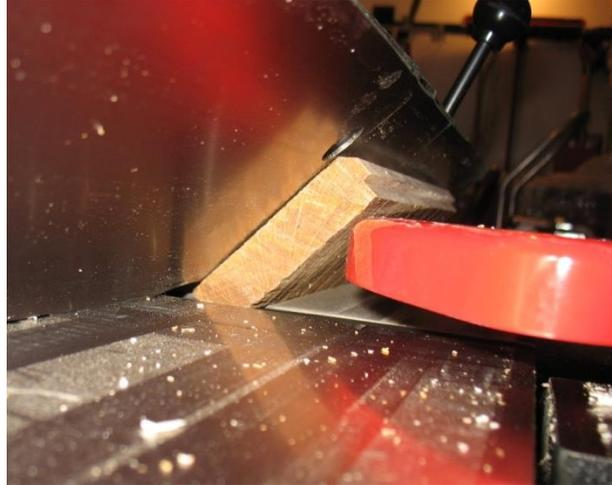

Figure 19: Beveling
5. The fence can be adjusted up to 45 degrees angled toward the infeed/outfeed tables (bed) or away from the infeed/outfeed tables (bed) for beveling. There is less chance of stock slippage when the fence is angled down, toward the tables (Fig. 19). Angling the fence toward the tables is also a safer method to bevel, when the application allows.